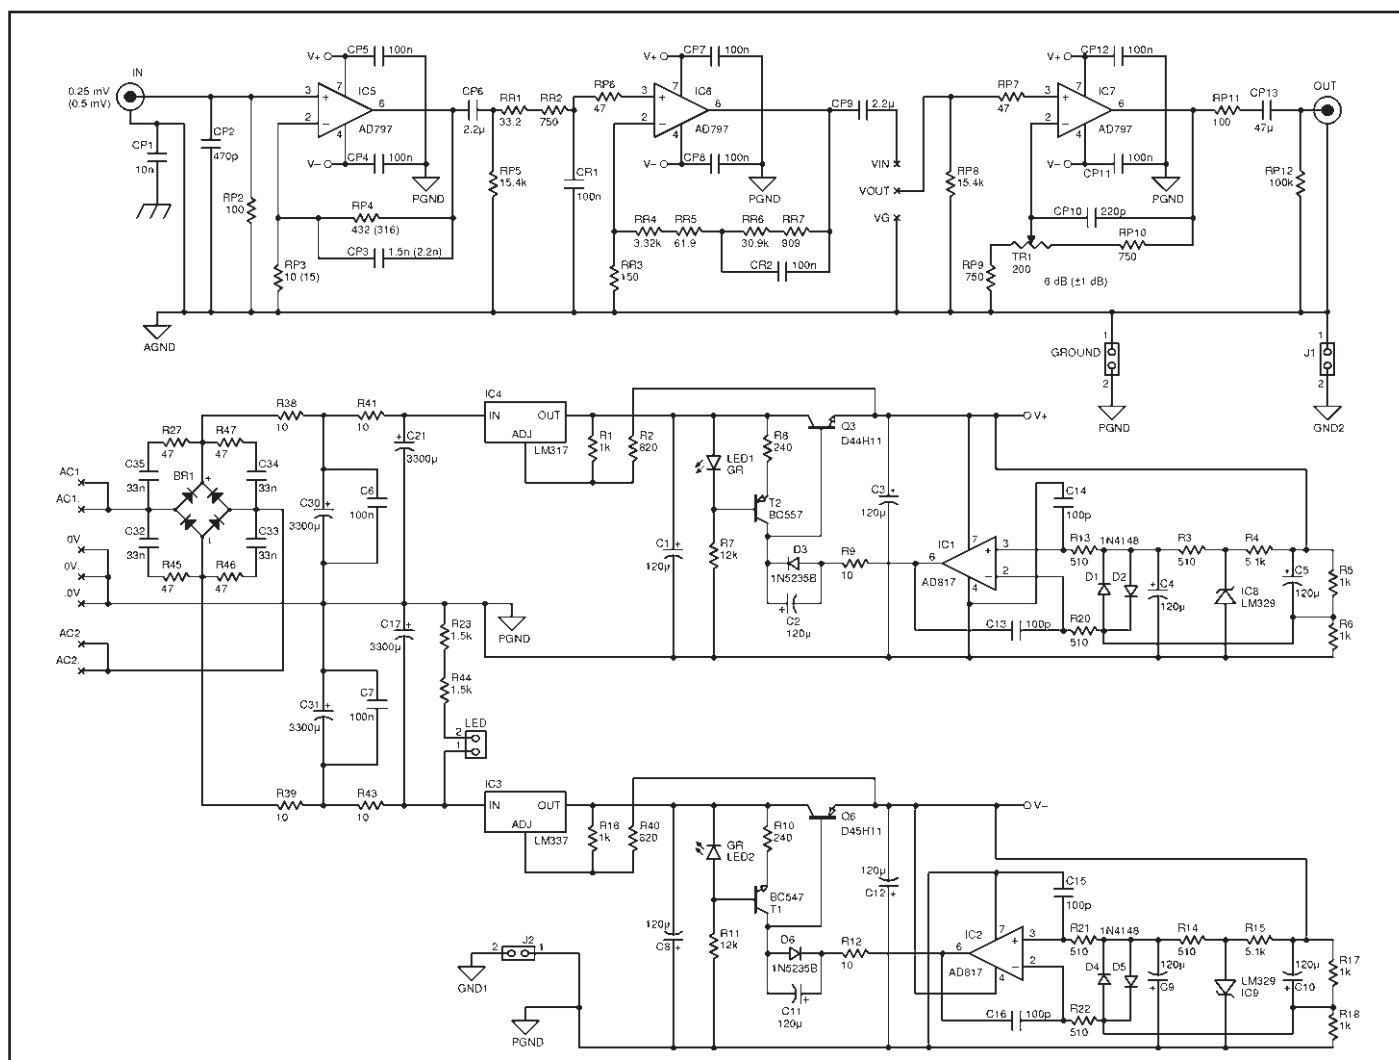

Figure 2: This is the MC100 preamplifier electronic diagram.
**Figure 2** shows the amplifier's complete electronic schematic. The schematic only shows